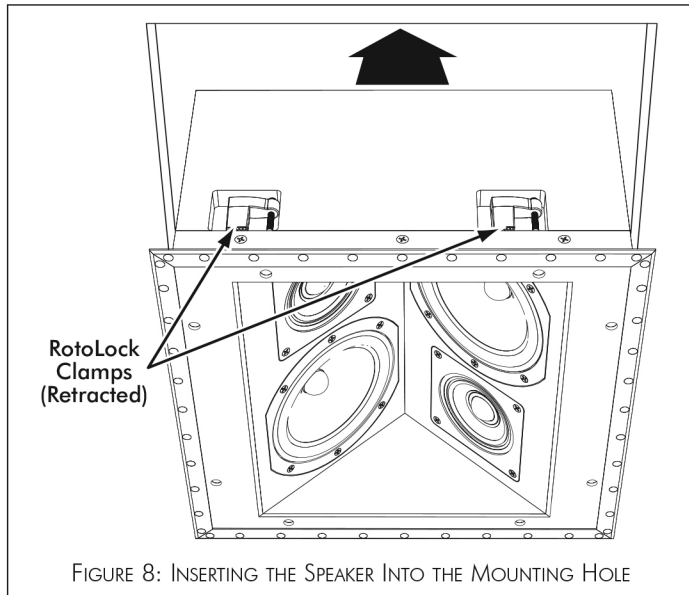

FIGURE 8: INSERTING THE SPEAKER INTO THE MOUNTING HOLE
3. Make sure all the RotoLock clamps are fully retracted into their recesses in the speaker box. Insert the speaker into the hole in the ceiling (see Figure 8).